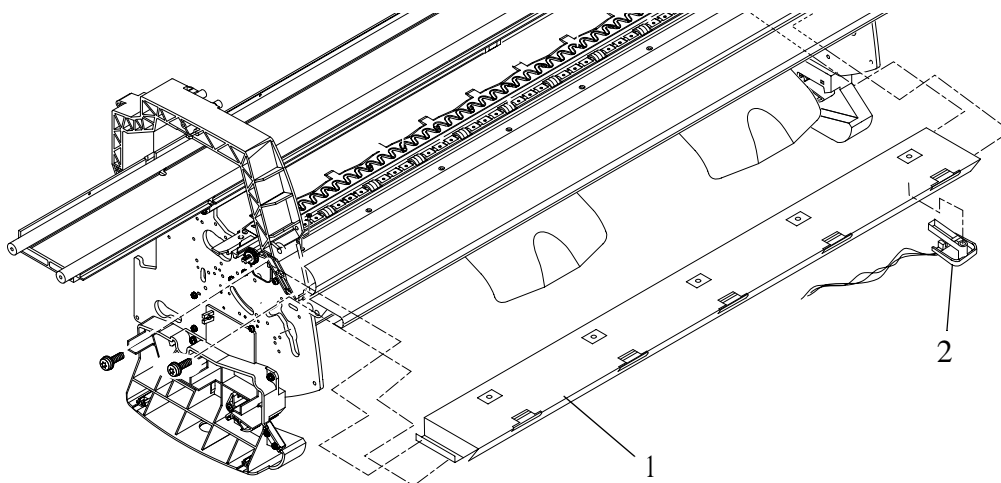

Figure 32: Media Sensor
2. Carefully remove the media sensor (item 2) from underneath the center guide (item 1) (refer to Figure 32).